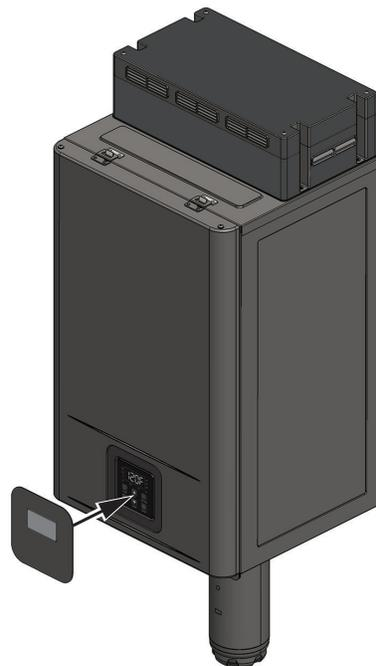

Figure 3 - Control Panel Cover Plate Install.
- 6** Attach the control panel cover plate as shown in Figure 3.